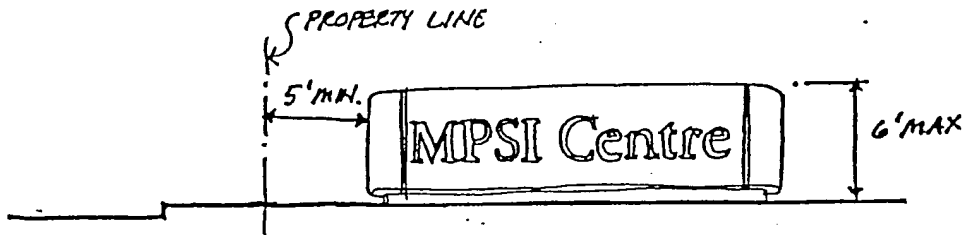

Figure 35
- ☐ Any monument sign should be set back from the property line a minimum distance of 5 feet (Figure 35).